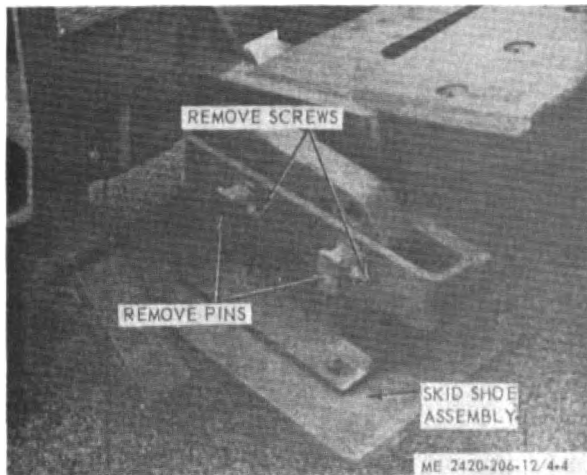

Figure 4-4. Skid shoe, removal and installation.
a. Removal. Remove skid shoe as illustrated in figure 4-4.
(1) Clean parts and dry thoroughly.
(2) Inspect for wear, cracks, breaks, and other damage. Replace all defective parts.
c. Installation. Install skid shoes as illustrated in figure 4-4.